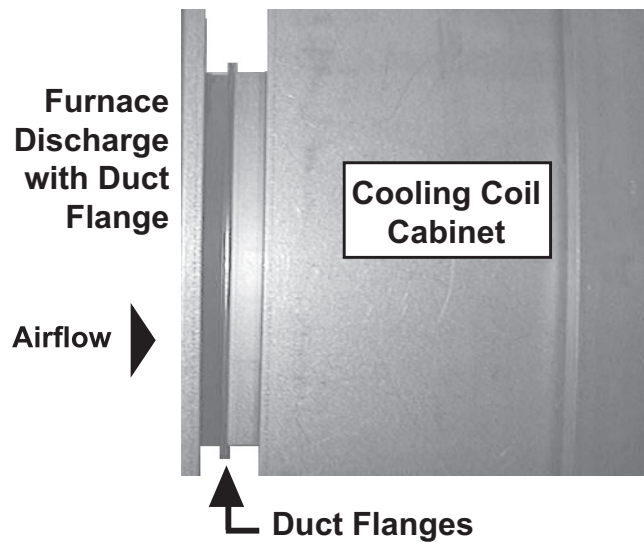

Figure 2. Cooling Coil Cabinet Mounting Position
3. Slide cooling coil cabinet so that furnace duct flanges and cabinet butt together (see Figure 2).